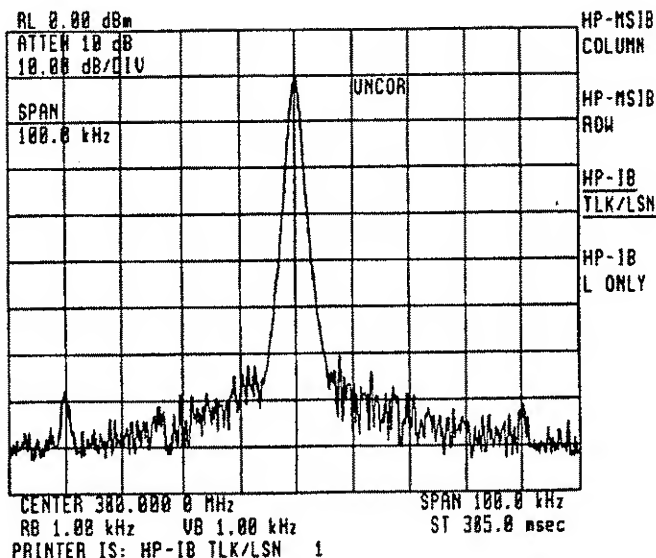

Figure 2-44. HP-IB TLK/LSN
6. Press **ENTER**. The address should change immediately, as in the lower-left corner of Figure 2-44.